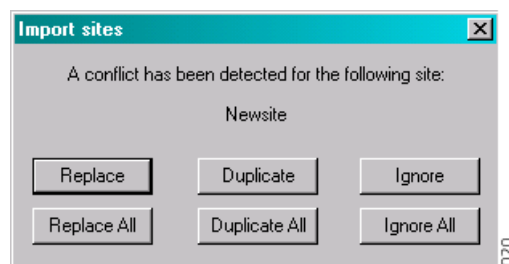

Figure 20. Conflicting site names.
- 3 Locate the .xml file in the file system and click "Open". If any sites that are to be imported, already exist, the following window appears, see figure 20 below.